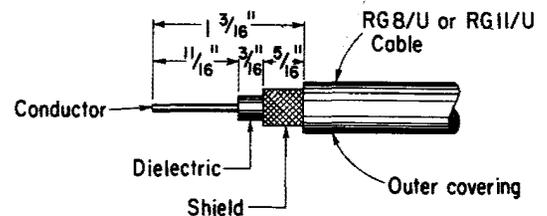

Fig. 42
- (i) Place slotted snap insulator on inner adapter. Insulator and gasket housing should fit flush as shown in Fig. 42. Insulator should be kept clean to prevent arcing.
- (a) Cut end of cable even. Remove vinyl jacket $1\text{-}3/16$ inches as shown in Fig. 42.
- (b) Bare $11/16$ inch of center conductor. Trim braided shield as shown in Fig. 42.